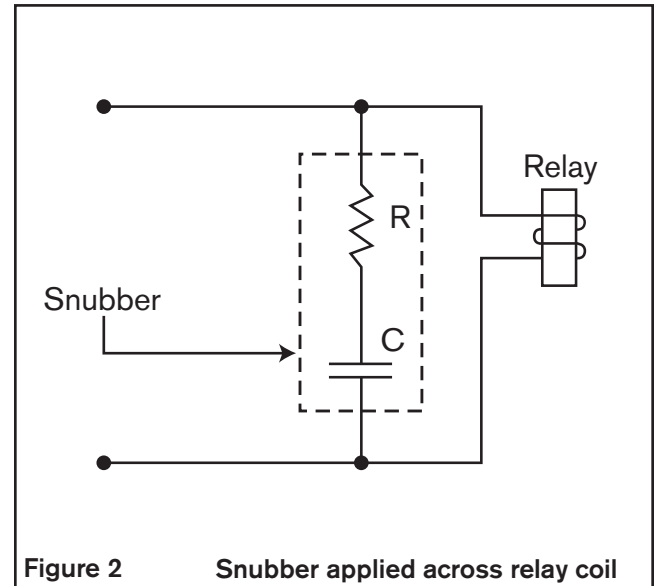

Figure 2 Snubber applied across relay coil
- Place a resistor-capacitor network (snubber) across inductive coils such as relays and solenoids in order to stop electrical interference at the source (See Figure 2).